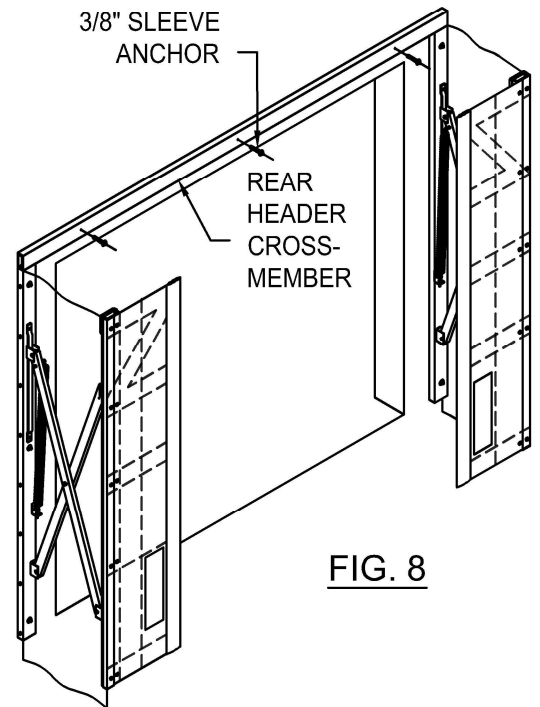

FIG. 8
- \* Insert 3/8" sleeve anchors and tighten with 1/2" socket wrench (FIG. 8).